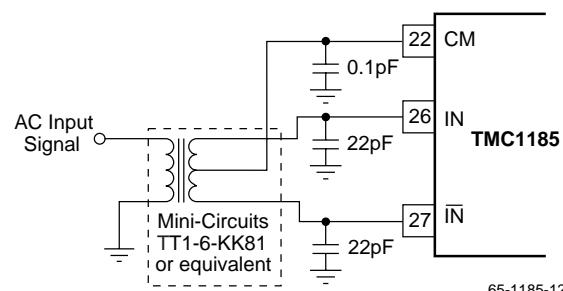

Figure 5. AC-Coupled Single-Ended to Differential Drive Circuit Using a Transformer
The TMC1185 has a differential input with a common-mode of +2.25V. For AC-coupled applications, the simplest way to create this differential input is to drive the primary winding of a transformer with a single-ended input. A differential output is created on the secondary if the center tap is tied to the common-mode voltage (CM) of +2.25V per Figure 5. This transformer-coupled input arrangement provides good high frequency AC performance. It is important to select a transformer that gives low distortion and does not exhibit core saturation at full scale voltage levels. Since the transformer does not appreciably load the ladder, there is no need to buffer the common-mode (CM) output in this instance. In general, it is advisable to keep the current draw from the CM output pin below 0.5 μ A to avoid nonlinearity in the internal reference ladder. A FET input operational amplifier such as the OPA130 can provide a buffered reference for driving external circuitry. The analog IN and $\overline{\text{IN}}$ inputs should be bypassed with 22pF capacitors to minimize track/hold glitches and to improve high input frequency performance.